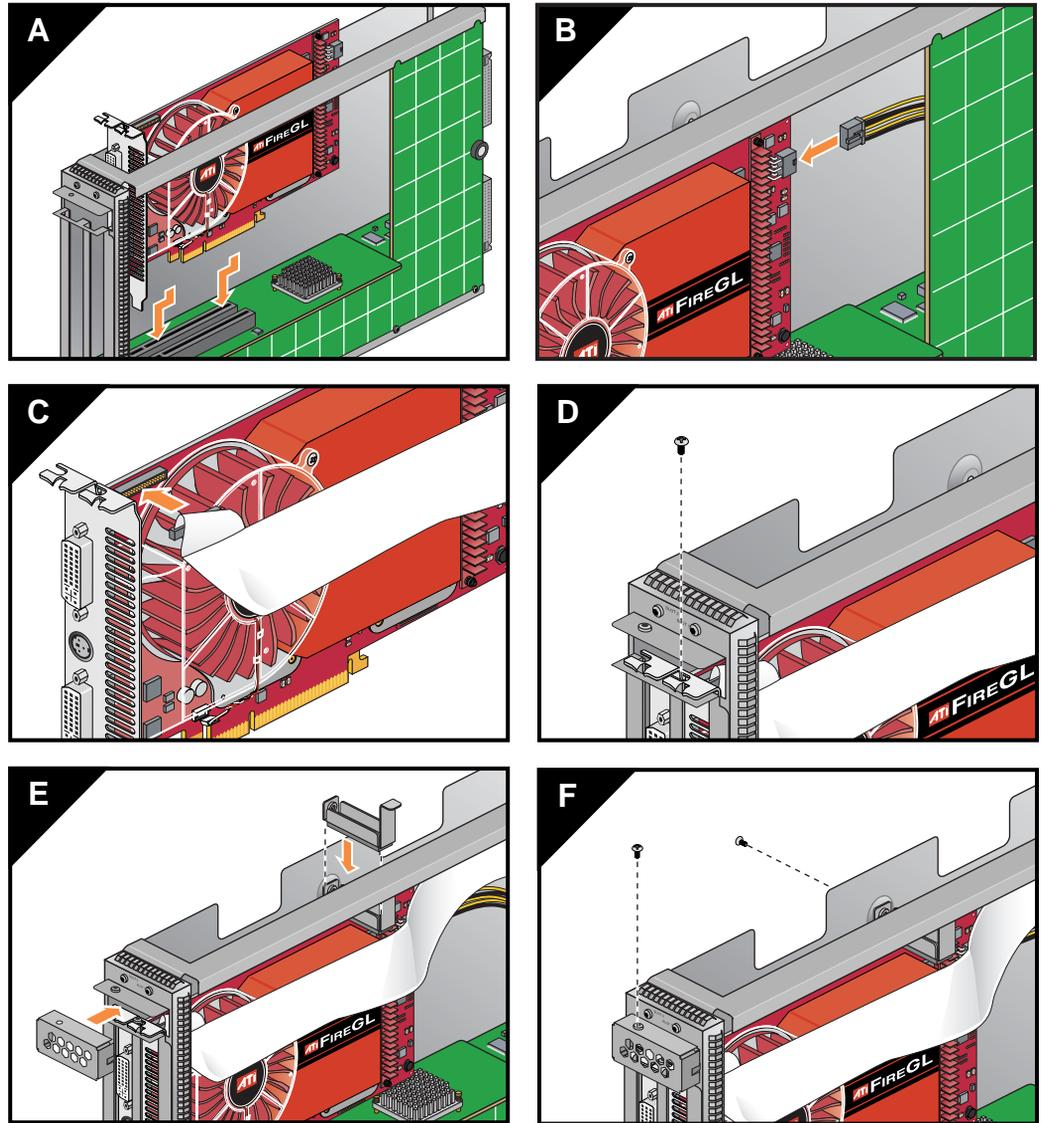

Figure 1-11 Replace the Graphics Card in the Single-Wide (I2E) Blade
7. Reverse these procedures to install a new 3D graphics board, see Figure 1-11 on page 15.